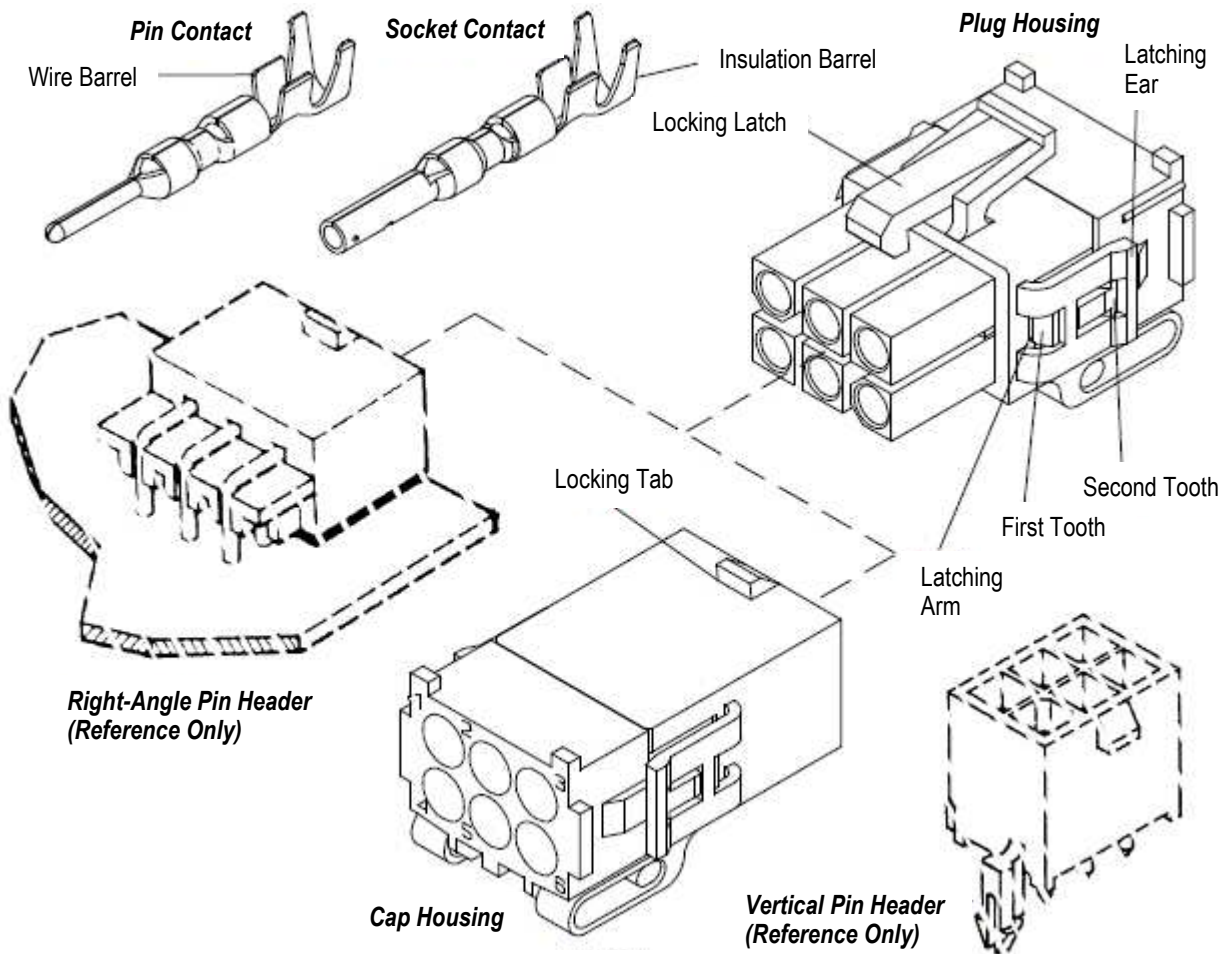

Figure 1
When corresponding with TE Connectivity (TE) personnel, use the terminology provided on this specification to help facilitate your inquiry for information. Basic terms and features of components are provided in Figure 1.